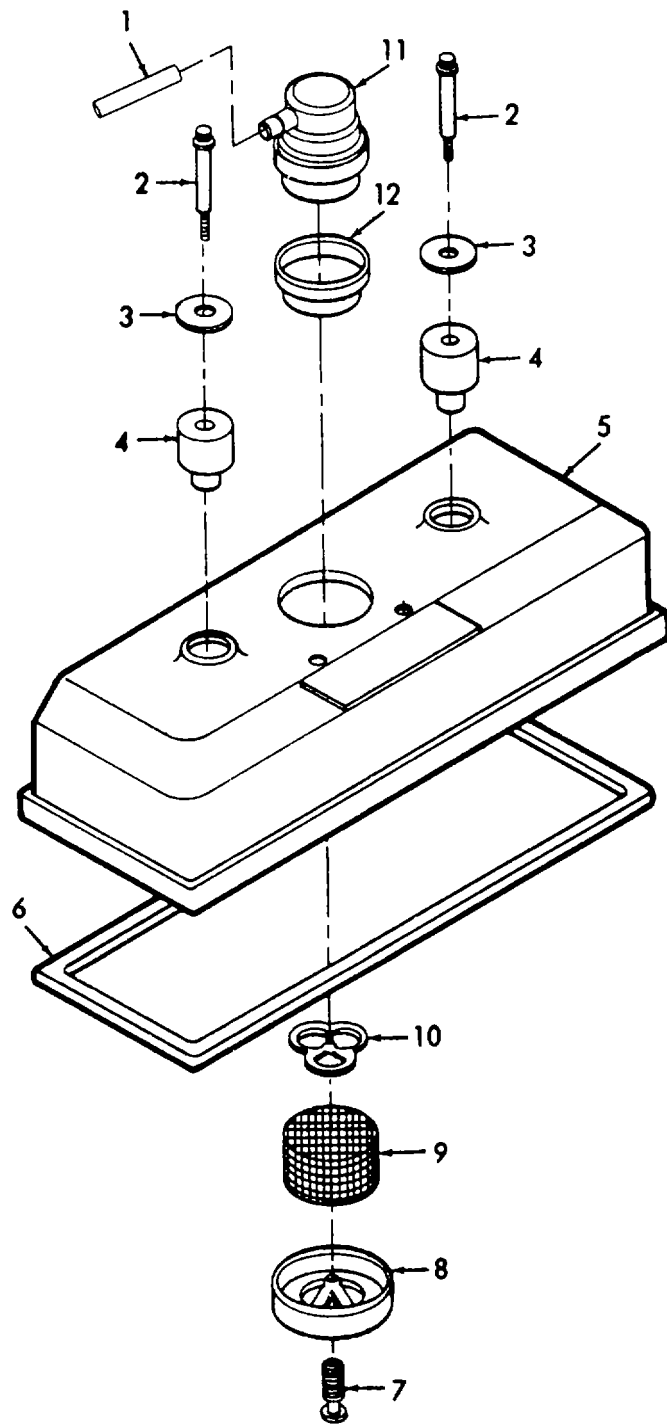

Figure 3-69. Rocker Arm Cover, Removal/Installation.
- a. **Removal.** (Refer to figure 3-69).
- (1) Disconnect breather hose (1).
- (2) Remove two bolts (2), two flat washers (3), and two isolators (4).
- (3) Remove cover assembly (5) and gasket (6). Discard gasket (6).
- (4) Remove screw (7), retainer (8), disk (9), retainer (10), cover (11), and seal (12) from cover (5).
- (1) Refer to figure 3-69 and install seal (12), cover (11), retainer (10), disk (9), retainer (8), and secure with screw (7).
- (2) Install new gasket (6) and cover assembly (5) on cylinder head.
- (3) Install two isolators (4), two flat washers (3), and two bolts (2). Torque bolts (2) to 15-20 lb-ft (20-27 Nm).